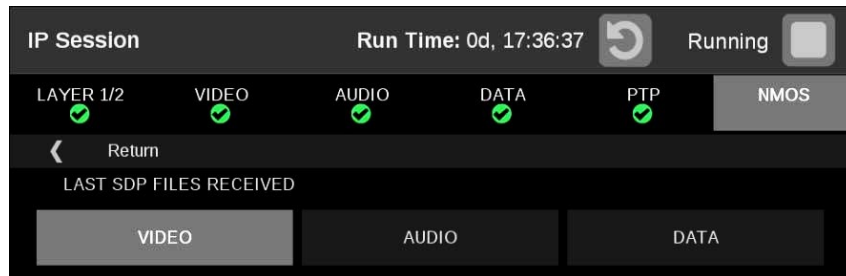

Figure 155: Last SDP File Received display
- **Last SDP File Received:** Select the Last SDP File Received tab view video, audio, and data SDP files. These files contain information used to configure input signals from the registration servers. (See Figure 155.)